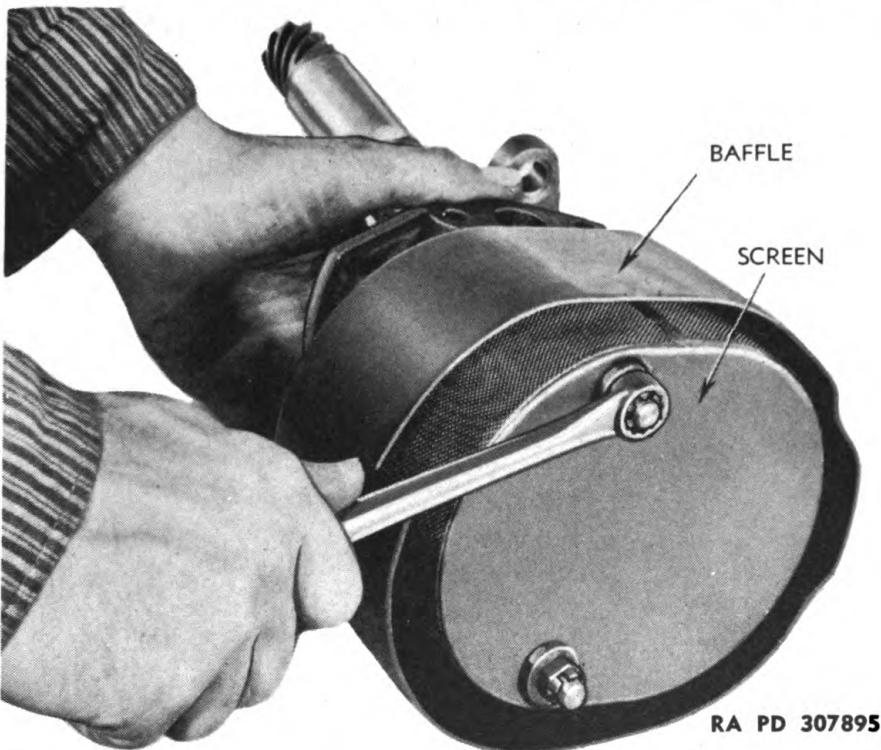

Figure 88 — Removing Oil Pump Screen
(1) REMOVE SCREEN AND BAFFLE. Pull cotter pins and remove the two slotted nuts from screen retaining studs (fig. 88), and draw screen from studs. Cut lock wire, remove three cap screws (fig. 89) and remove the screen baffle.
(6) **INSTALL BAFFLE AND SCREEN.** Use new attaching gasket and install baffle on pump as shown in figure 89 with three cap screws with copper washers. Thread lock wire through heads of cap screws and twist ends. Install the two screen retaining studs into bottom cover. Slip the screen into place over the two studs and install washers and slotted nuts on studs to secure screen (fig. 88). Install cotter pins through nuts and studs.